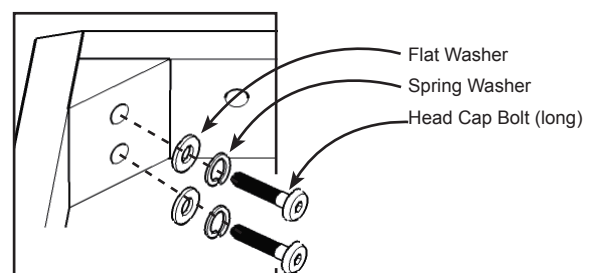

Figure 4
Attach Back Frame (D) to unit with Flat Washers, Spring Washers, Head Cap Bolts (short), Head Cap Bolts (long) and Wood Screws. (See Figure 3) and (See Figure 4)